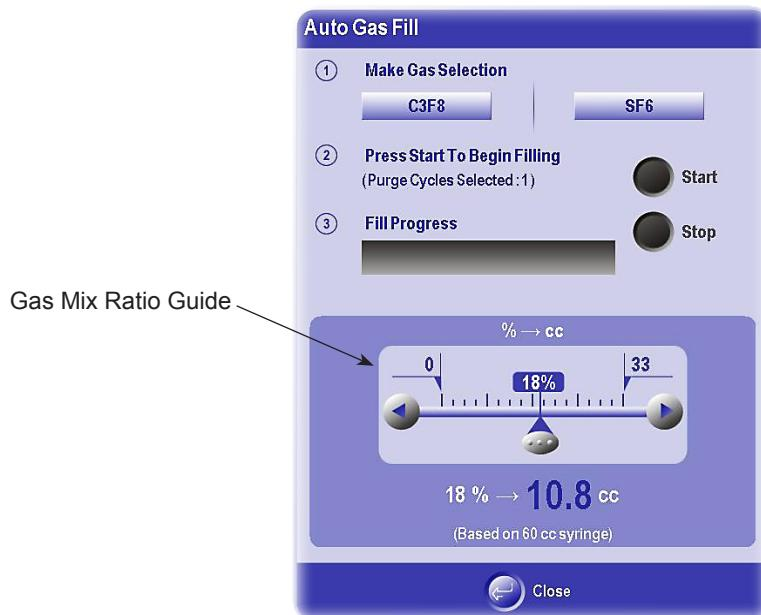

Figure 2-23 Auto Gas Fill Popup (Options\Settings\System\Extras\Auto Gas Fill)
The Auto Gas Fill popup shown in Figure 2-23 steps the operator through the process of filling syringes with the specified gas (either C3F8 or SF6). In Surgery Mode, the operator can optionally use the Auto Gas Fill button within the surgery header to launch this popup.
1. Move the slider on the guide to the desired percent of gas mixture. The guide displays the syringe reading that the plunger must be moved to in order to achieve the displayed percentage of gas in the syringe (18% -> 10.8 cc in Figure 2-23).